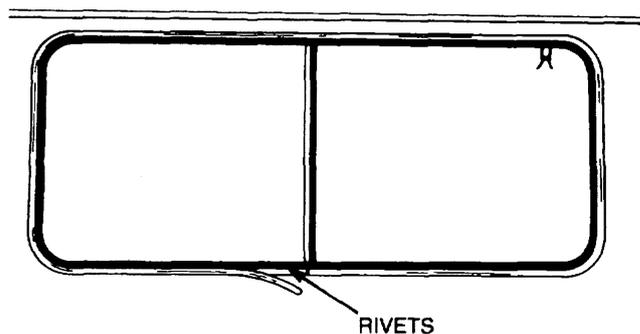

Figure 224 Filler Strip Removal
- a.** Remove the rubber filler strip from the groove in the glazing rubber (Figure 224) to expose the rivets.
- cc. Position the window frame in the cab aperture and secure it with rivets (Figure 224).